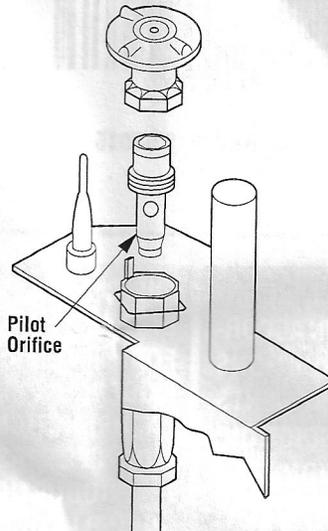

Figure 3
Step 6. Refer to **Figure 3** and remove the pilot hood assembly to access the hexed pilot orifice. Using a (4mm) Allen wrench, remove and replace the orifice with the one provided with this kit. **Figure 4** shows the pilot reassembled, with proper flame. **Figure 5** shows a typical pilot to burner relationship.
Step 10. Refer to *Figure 3* and remove the pilot hood assembly to access the hexed pilot orifice. Using a (4mm) Allen wrench, remove and replace the orifice with the one provided with this kit. *Figure 4* shows the pilot reassembled, with proper flame. *Figure 5* shows a typical pilot to burner relationship.